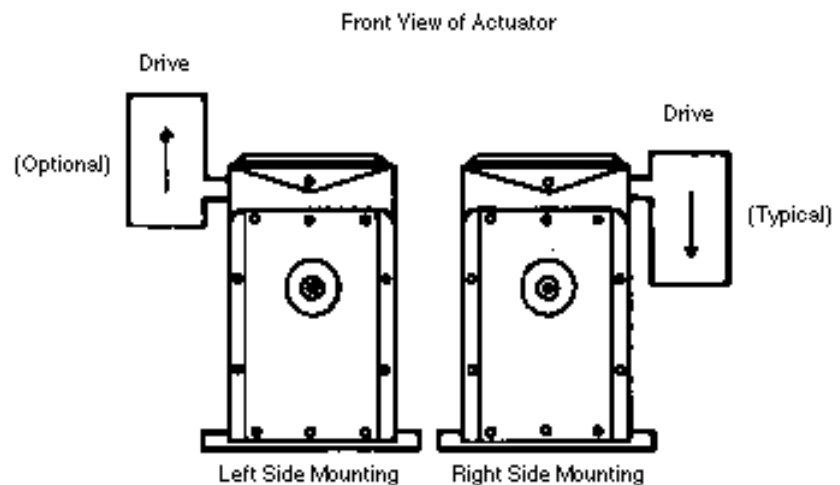

Figure-11 Typical Mounting for CP-8391-456, CP-8391-716, CP-8391-717.
Locate the instrument to avoid dust or oil accumulations and moisture. If installed outdoors, the CP-8391-xxx must be kept within ambient temperature limits. Upright mounting of the CP-8391-xxx is preferred, but other positions are acceptable. (See Figure-11.) Make sure the O-Rings are between the actuator housing and the actuator drive enclosure to insure NEMA 3R rating is maintained.
Mount the CP-8391-xxx to either side of the actuator by inserting the two conduit connectors into the 1/2" knockouts on the actuator. Secure the drive with the two (2) locknuts provided. (See Figure-11)